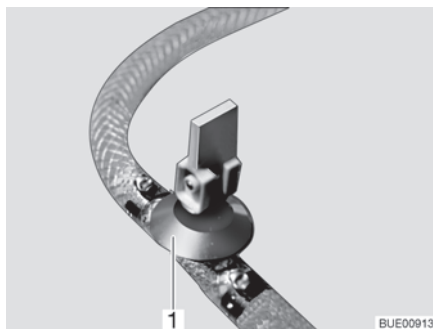

Fig. 166 Drain cock (with rocking lever)
- Close all drain cocks. In order to do this, position the rocking lever of the drain cock (Fig. 166,1) horizontally.